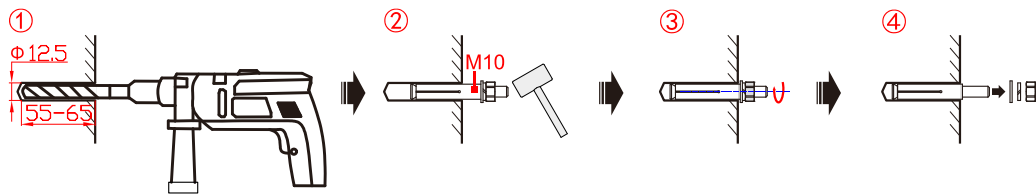

Figure 3-15 Install the expansion bolt (unit: mm)
2. Install the expansion bolts, as shown in Figure 3-15, for detail specification please see Table 3-1.